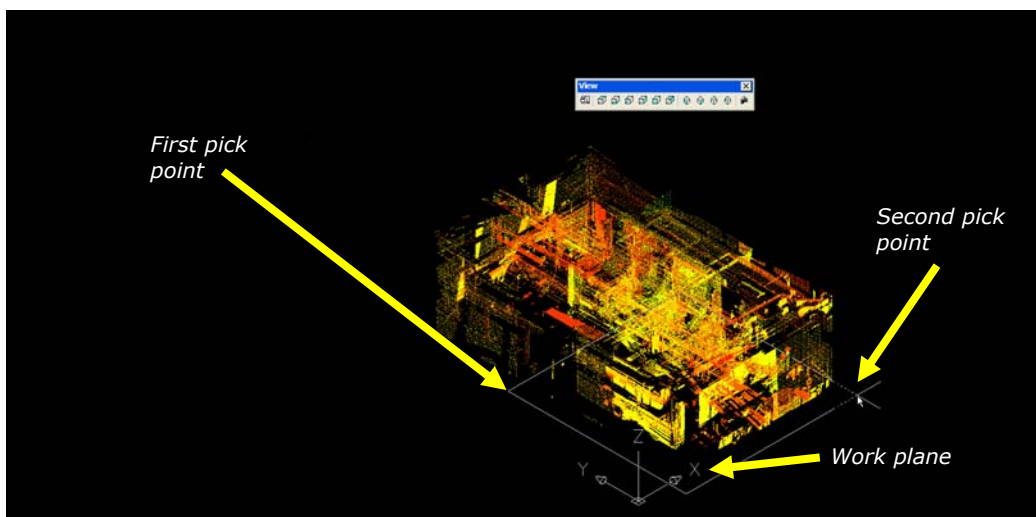

Figure 3.
3. Select a point representing one corner of the desired 3D limit box; use the point labeled *First pick point* in *Figure 3*.
4. Select point representing opposite corner of desired limit box; use the point labeled *Second pick point* in *Figure 3*.